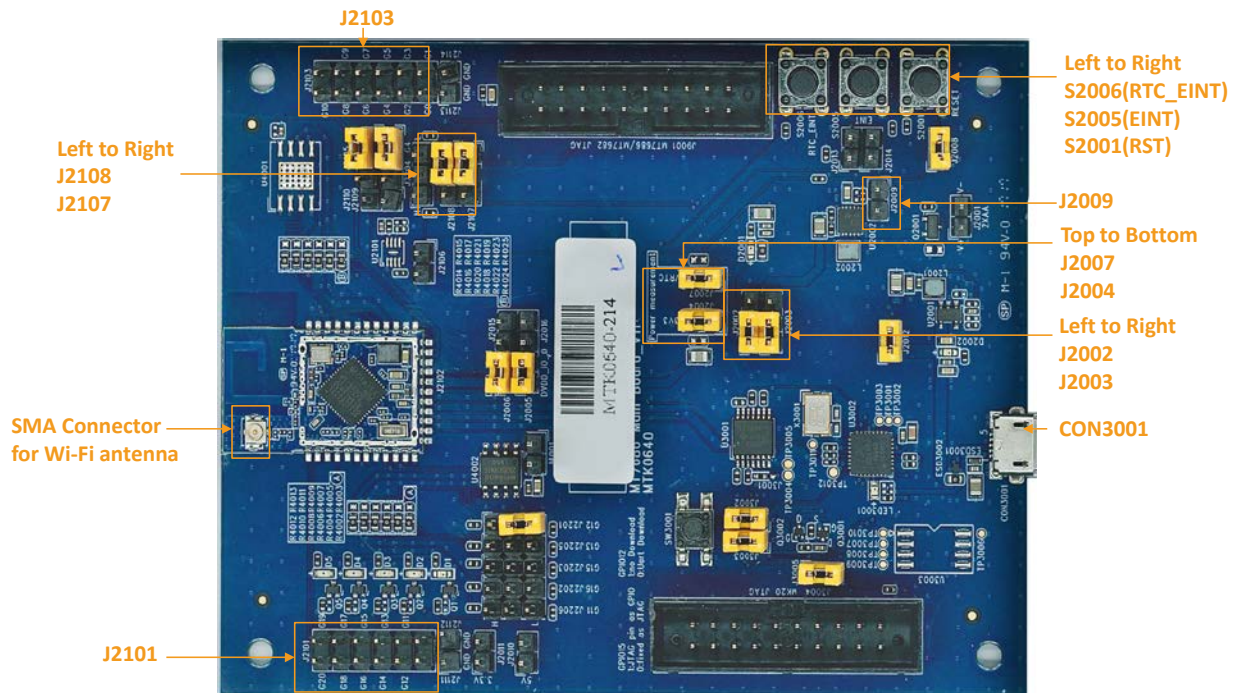
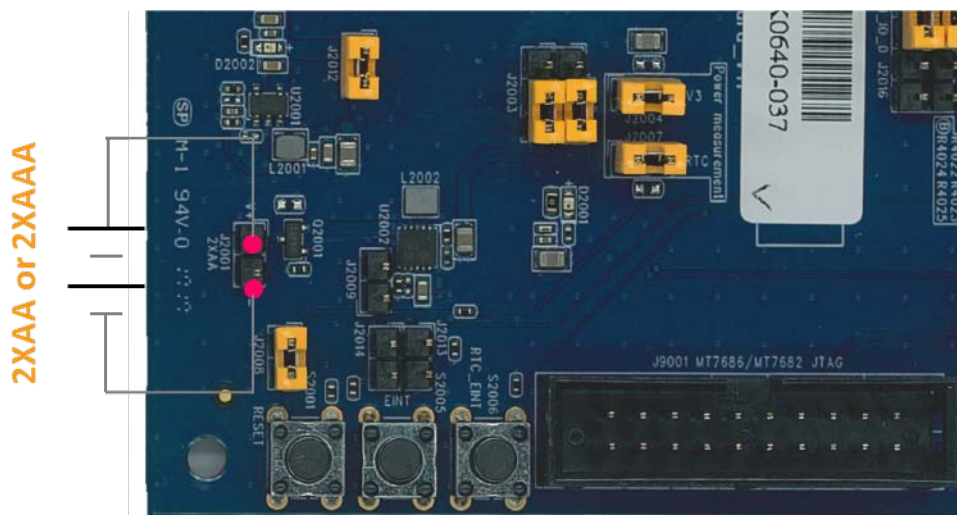

Figure 2. Jumpers and connectors on the MT7686 HDK
Figure 5. Power up the HDK using an AA or AAA Battery (J2001)
MT7686 HDK includes a main board (MT7686 Main Board_V11) and a MT7686 stamp module. The MT7686 stamp module is mounted on the main board. The top view of the main board is shown in Figure 2.
The description of pins (Figure 2) and their functionality is provided below.
The development board should now be connected to the PC, as shown in Figure 2.
An on-board switching regulator provides voltage of 3.3V for the MT7686 HDK based on MT7686F, if the power is supplied from an on-board micro-USB connector **CON3001** (Figure 2). This supply can be isolated from the switching regulator using the jumpers. Note, that the jumpers **J2002** pin 1 and pin 2, **J2003** pin 1 and pin 2, **J2004** and **J2007** are required to be set on. More details on the jumpers can be found in Table 1.
- Connect an external AA battery to battery pin header (**J2001**) to supply power to the system, as shown in Figure 5. When using an AA battery, plug the USB to micro-USB connector **CON3001** (Figure 2). Note, that the jumpers **J2002** pin 2 and pin 3, **J2003** pin 2 and pin 3, **J2004**, **J2007**, and **J2009** are required to be set on. More details on the jumpers can be found in Table 2.